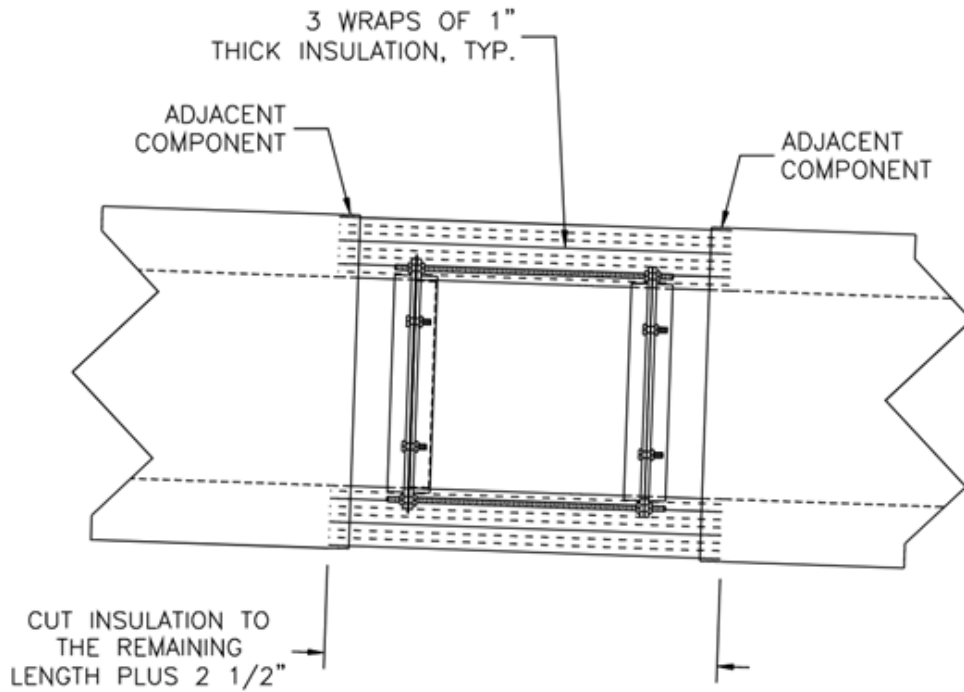

Figure 10: Wrap three wraps of insulation for GRZA and four wraps for GR4ZA.
19. Cut the provided 24" insulation strips to a length that is 2-1/2" wider than the gap between the two adjacent shells. Wrap 3 layers of insulation, being careful not to leave any gaps. Make sure to overlap any seams. (See figure 10)